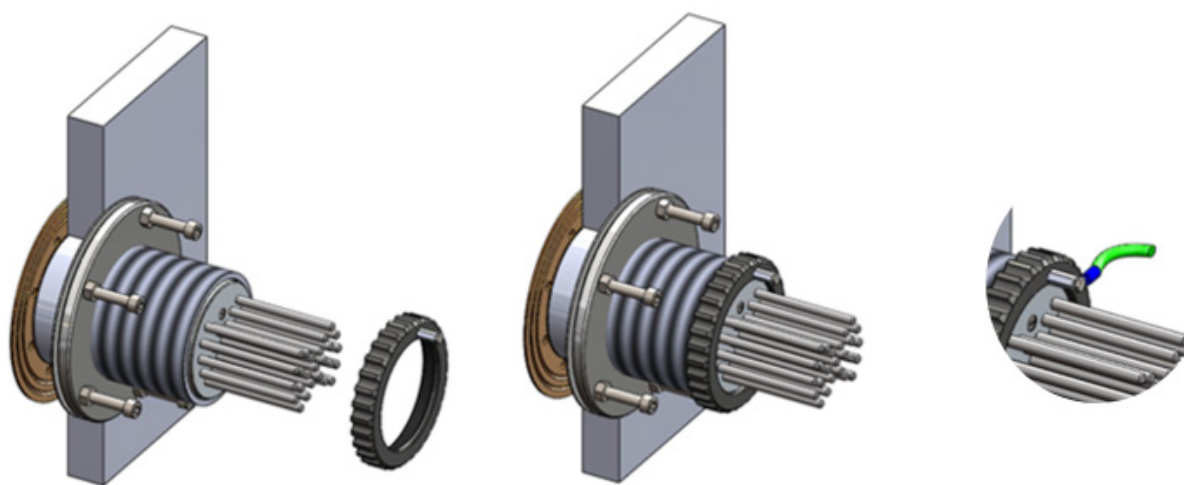

Fig.6.5
5. You will now need to re-install the rear locking ring which is packed separately. This locking ring is simply screwed onto the rear of the housing until it comes to a stop. It is crucial that this ring is screwed down all of the way until this stops. Tools are included in this kit to help with this Installation. The larger style half-spanner tool, marked 'A', will fit into the grooves on this locking ring. Slide the 3-hole tool, marked 'B', down the pins on the rear of the light unit and you will be able to leverage this ring until it is tight against the body of the light unit. (See Fig.6.5).